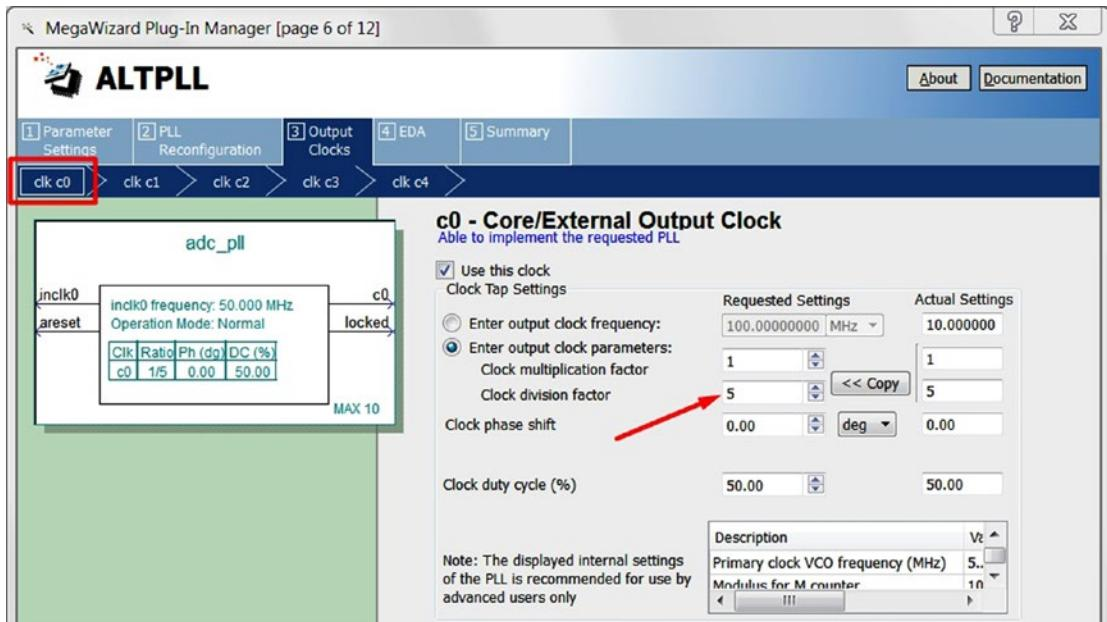
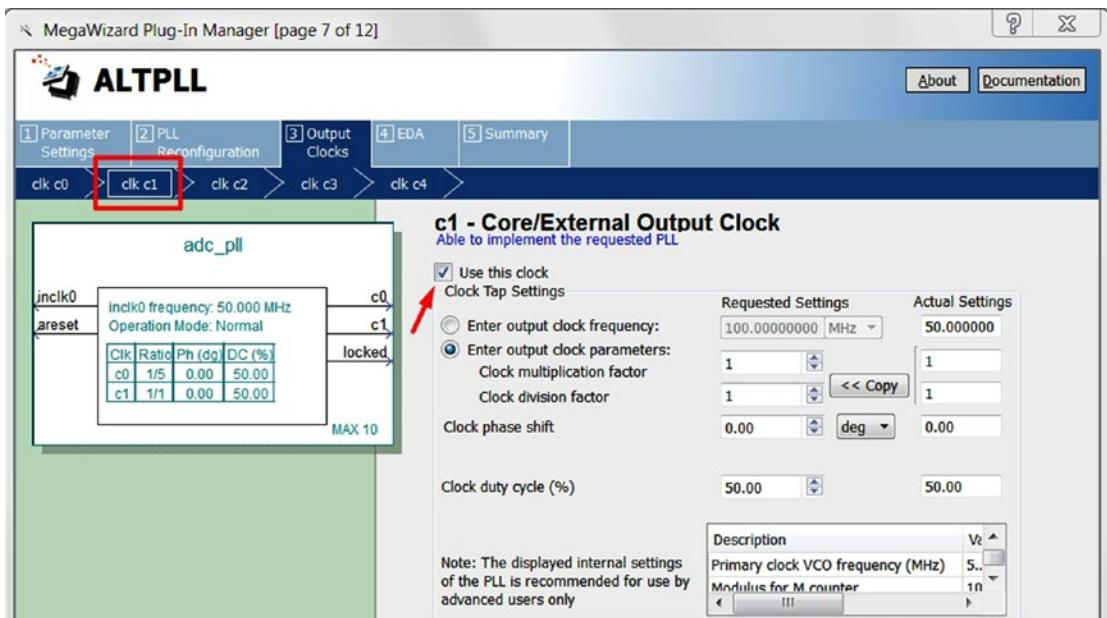

Figure 12-20. MegaWizard Plug-In Manager for ADC IP—3
Figure 12-21. MegaWizard Plug-In Manager for ADC IP—4
Step 4: Under the **3: Output Clocks** tab, the ADC requires a 10 MHz clock from the c0 output of PLL_1 on our BeMicro Max10 board. On the **clk c0** tab in Figure 12-20, change the division factor to **5**. On the **clk c1** tab in Figure 12-21, tick the **Use this clock** checkbox and leave the rest of the parameters at their defaults.